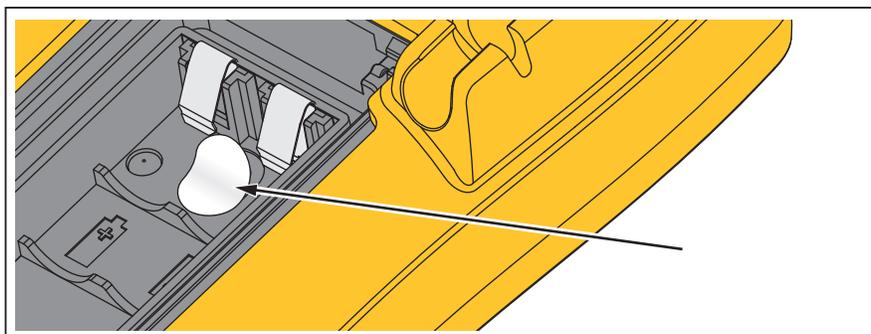

Figure 3. Remove Calibration Sticker
2. Remove the calibration sticker. See Figure 3.